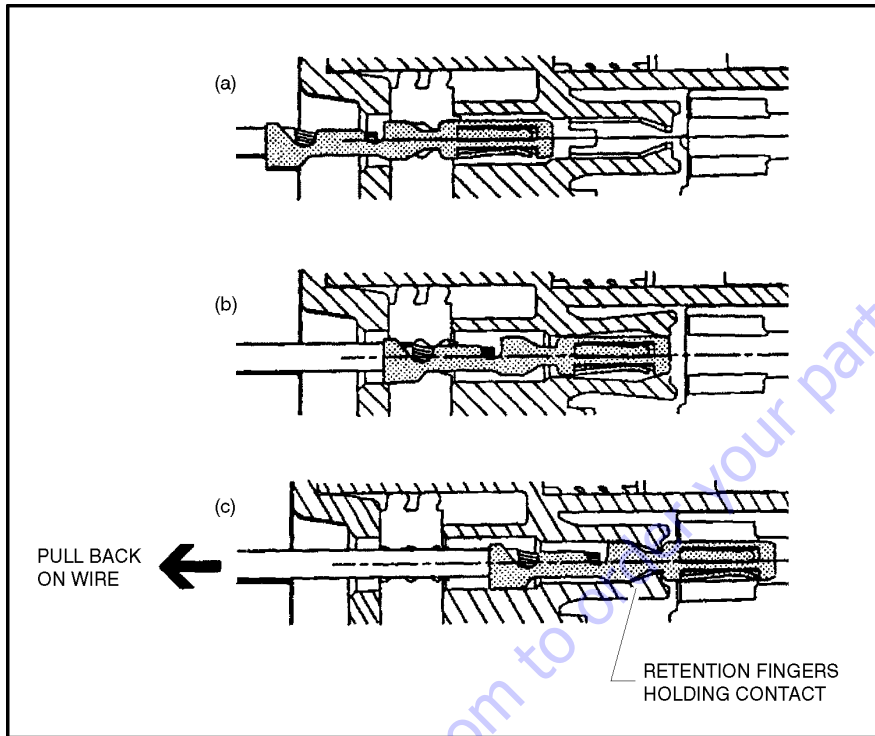

Figure 7-11. Connector Assembly Figure 2
2. Pull back on the contact wire with a force of 1 or 2 lbs. to be sure the retention fingers are holding the contact (See Figure 7-11.).
1. To insert a contact, push it straight into the appropriate circuit cavity as far as it will go (See Figure 7-11.).